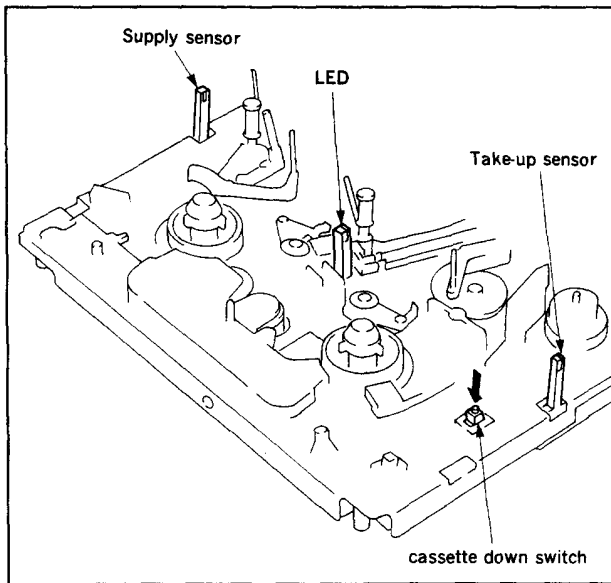

Fig. 1-3.
**1-3. TO COMPLETE THREADING WITH THE FL CASSETTE CONTROLLER REMOVED. (Fig. 1-3)**